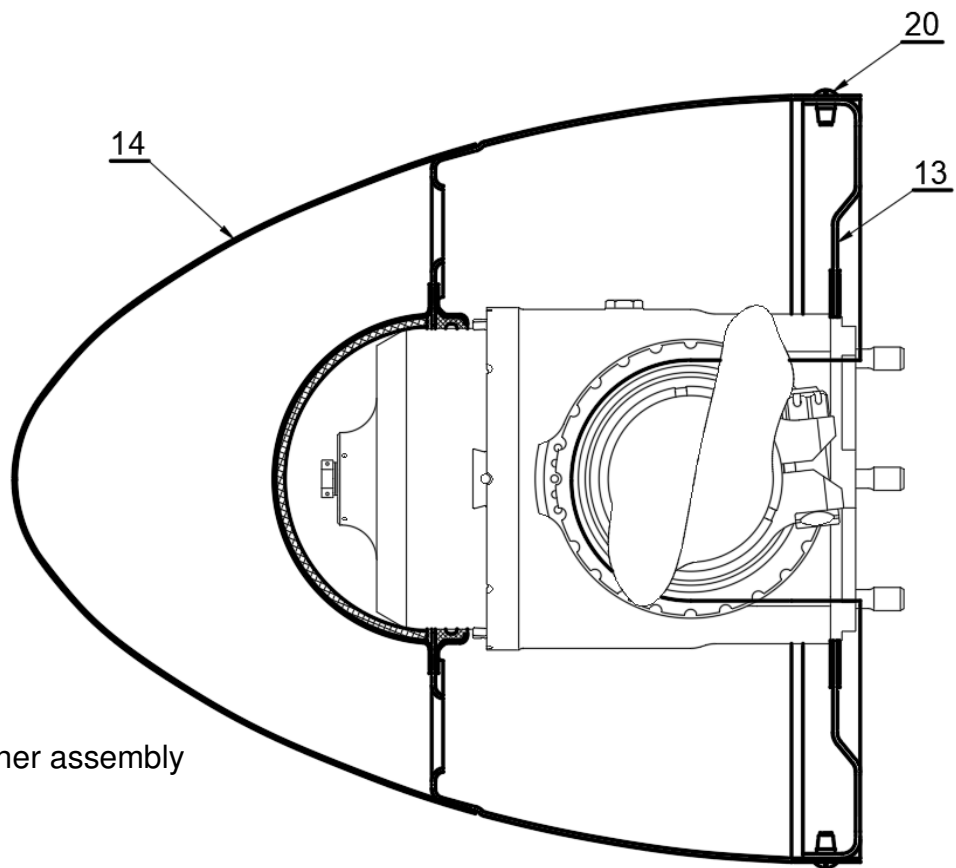

Fig. 101A
- 1 Figure 101A. The propellers manufactured and repaired up to end of 2021 year have riveted all-metal spinner dome (14) with internal integral bulkhead, which is fitted to metal rear bulkhead (13) with ten metric screws (20). The rear bulkhead is attached to the hub with four screws. The holes around circumference of rear bulkhead are for attaching the balancing weights (15).